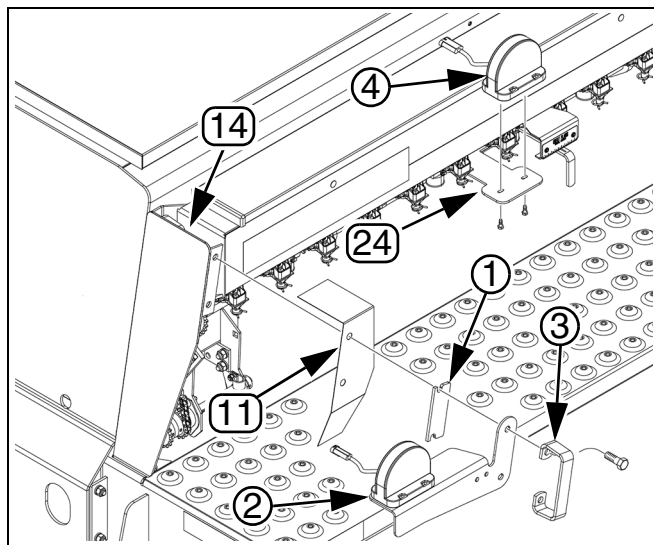

Figure 12
**For S/N CC2977+****Refer to Figure 12.**
1. Install the left-hand guard (11), spacer (1), light bracket and amber light assembly (2), and handle (3) to the left-hand box mount (14). Secure with the hardware removed earlier.
2. Adjust the light plate extension (24) to fit the small seeds hose layout, if necessary, and install the red LED light (4) with the hardware removed earlier.
**Refer to Figure 12.**
3. Install the right-hand guard (12), spacer (1), light bracket and amber light assembly (2), and handle (3) to the right-hand box mount (17). Secure with the hardware removed earlier.
4. Adjust the light plate extension (24) to fit the small seeds hose layout, if necessary, and install the red LED light (4) with the hardware removed earlier.